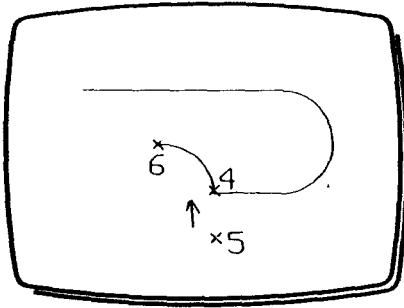

Fig 3
- 13 Move XY to position the dynamic cursor at (5) in Fig 3.